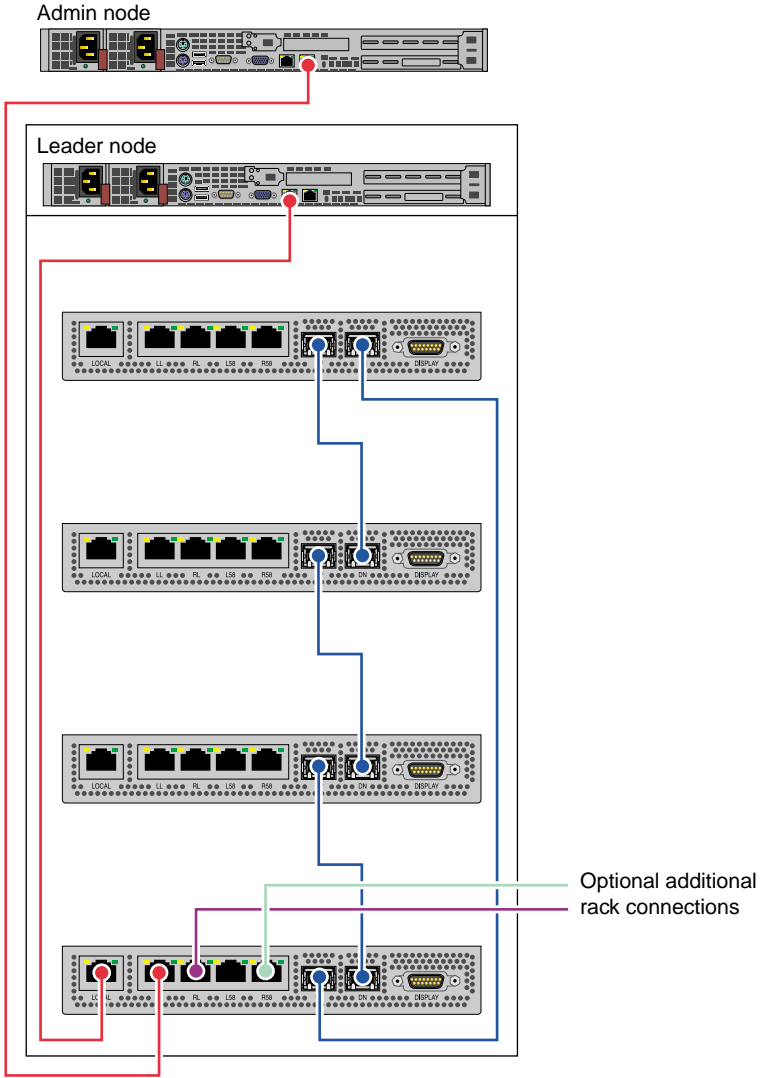

Figure 5-2 Admin/Leader to CMC Cable Examples
2. Disconnect both power cables, see Figure 5-2 on page 247 for server connection locations.